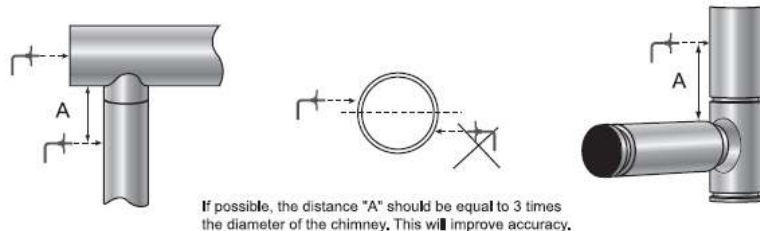

FIGURE 36
10. The **Figure 36** shows the location of the probe for the PDS. Location is important to make sure there is enough pressure or draft available or the switch to work. PDS location to be at 3' from last elbow before termination of vent system.